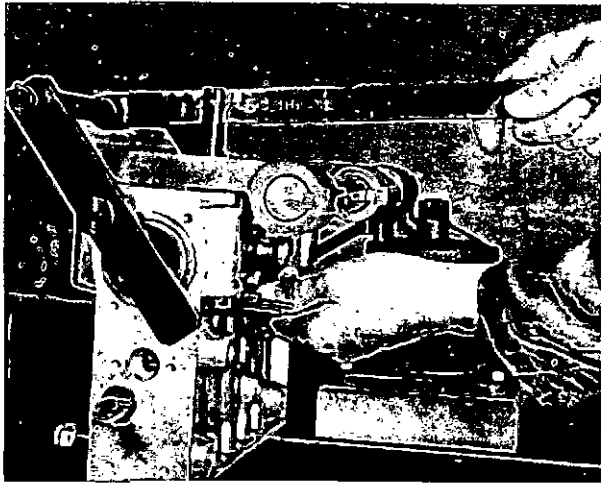

Fig. 12 Unloading plunger springs
10. Invert the pump, fit element spring compressing tool 1 688 110 027, together with pivot bar 1 683 001 003 and, on each tappet in turn, push the roller down, remove the tappet holder and unload the plunger spring (fig. 12).